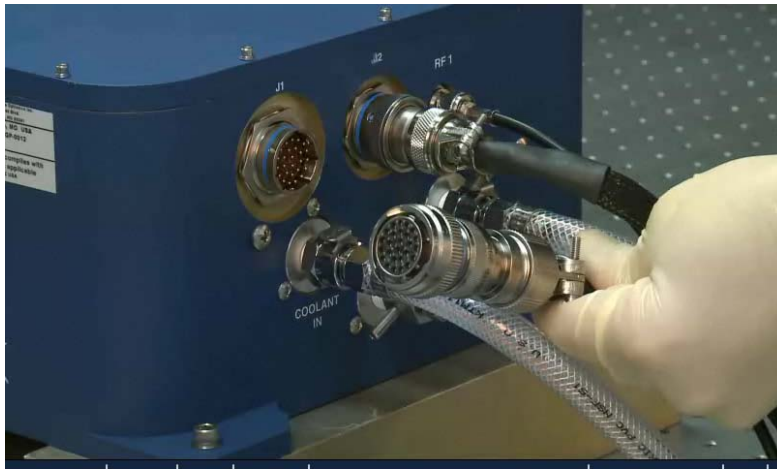

Figure 4-8. Signal Connection
4. Connect laser signal. Align the female connector of the laser signal cable to the J1 connector on the laser head. Once it is aligned, the connector can be pushed in. Turn the locking ring of the connector in the clockwise direction until it is locked as shown in Figure 4-8.